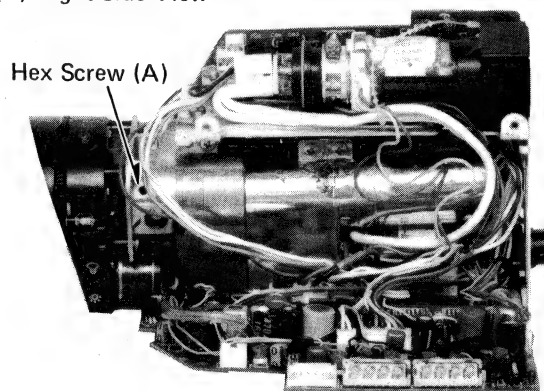

Fig. 19
- 7-2. Disconnect a connector (P301). Then, loosen the hex screw (A) (see Fig. 19-A/B).